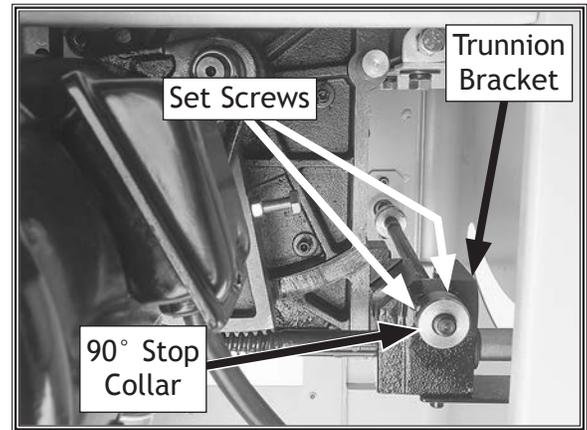

Figure 103. 90° stop collar and set screws.
5. Open motor door, loosen set screws shown in **Figure 103**, then thread 90° stop collar one turn away from trunnion bracket. This will allow you to square blade in next step.